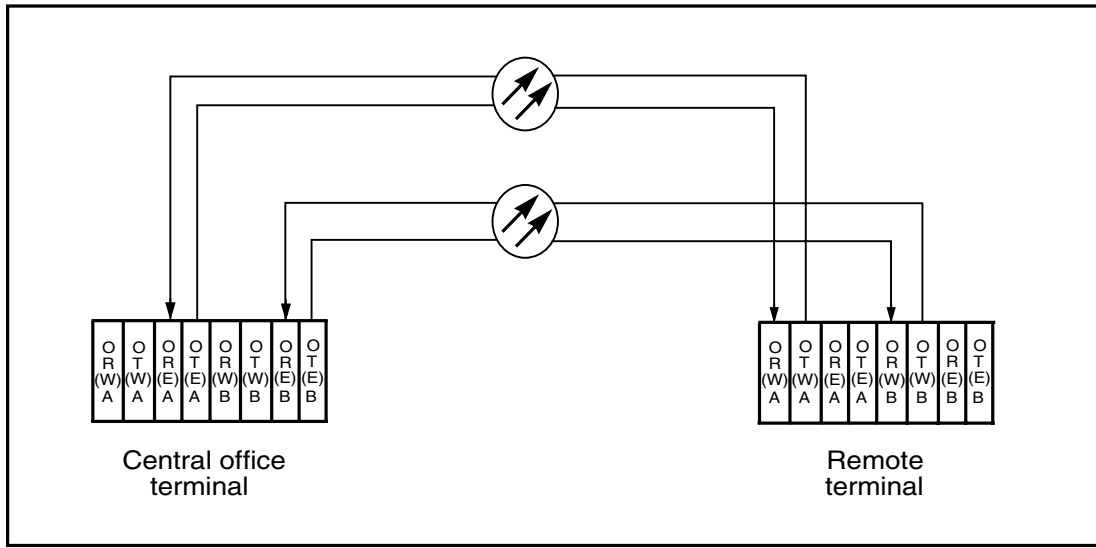
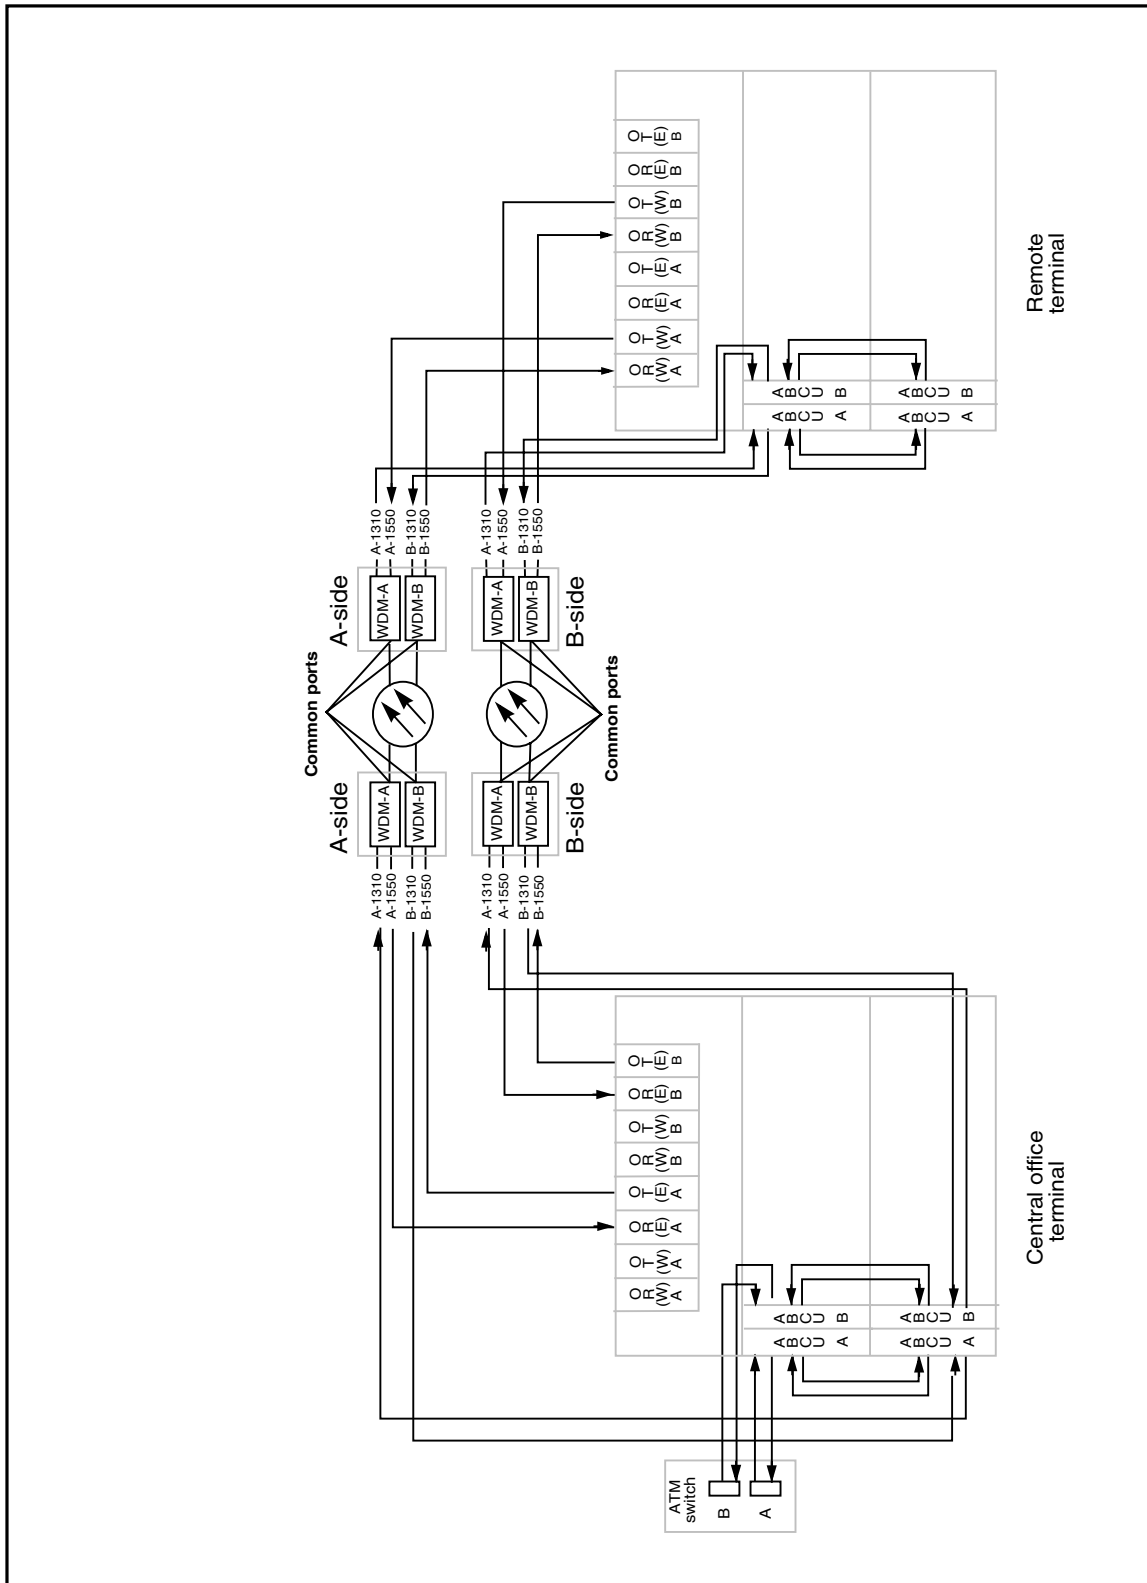
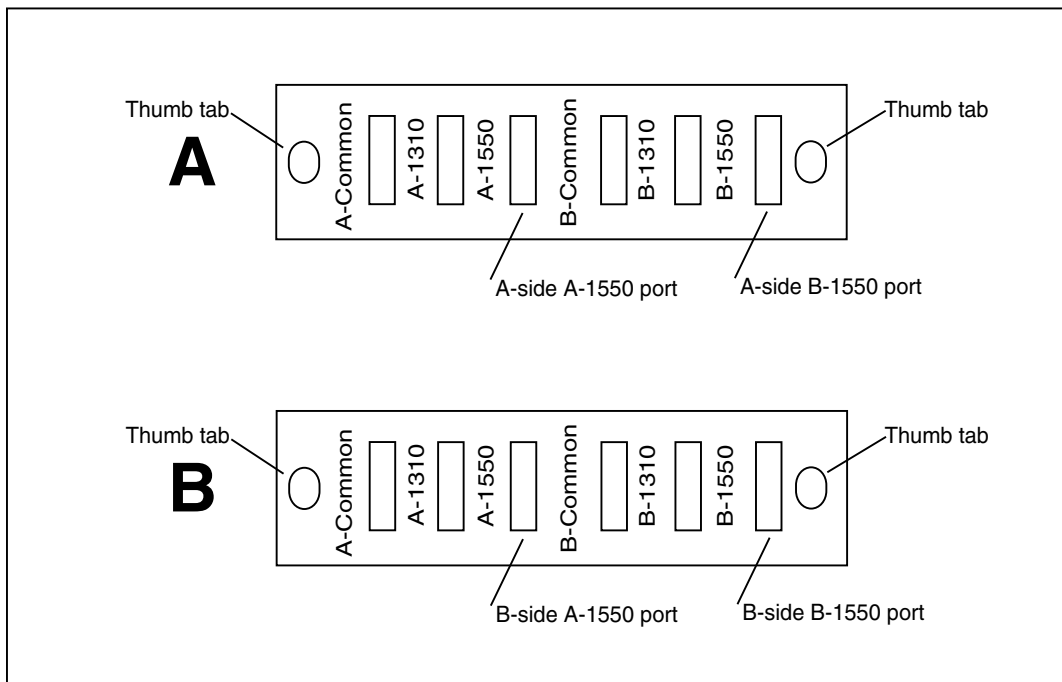

Figure 2. Fiber Configuration Before WDM Integration
Figure 3. Figure Configuration After WDM Integration
Figure 5. Detail of A- and B-Side WDM Module Front Panels
Figure 2 and Figure 3 illustrate how this procedure changes the fiber configuration in and between the Litespan terminals.
Figure 2 shows four fiber-optic cables carrying TDM traffic between two terminals. Two of the fibers provide protection.
Figure 3 shows the same four fiber-optic cables carrying both TDM and ATM traffic, integrated through WDM modules.
2. Connect this jumper to the WDM module, as follows. Refer to Figure 3 and Figure 5.
4. Connect this jumper to the WDM module, as follows. Refer to Figure 5.
The two fibers connected in Step 2 and Step 4 become the B-side common bidirectional paths between your terminal and the adjacent terminal. Refer to Figure 3.
7. Connect the other end of this new jumper to the WDM module, as follows. See Figure 5.
3. Pull the ejector lever at the base of the standby B-side east 1310-nm OTU and remove the unit from its slot. Refer to Figure 2.
5. Insert the 1550-nm OTU into the B-side OT(E) slot without seating the card.
10. Route the other end of the 1550-nm fiber-optic jumper you installed in Step 8 to the B-side B-1550 port on the WDM module. Refer to Figure 5.
18. Route the other end of the 1550-nm fiber-optic jumper you installed in Step 16 to the A-side B-1550 port on the WDM module. Refer to Figure 3 and Figure 5.
12. Refer to Figure 3, Figure 4, and Figure 5 to route the fiber-optic jumpers in steps 13 and 14.
22. Refer to Figure 3, Figure 4, and Figure 5 to route the fiber-optic jumpers in steps 23 and 24.